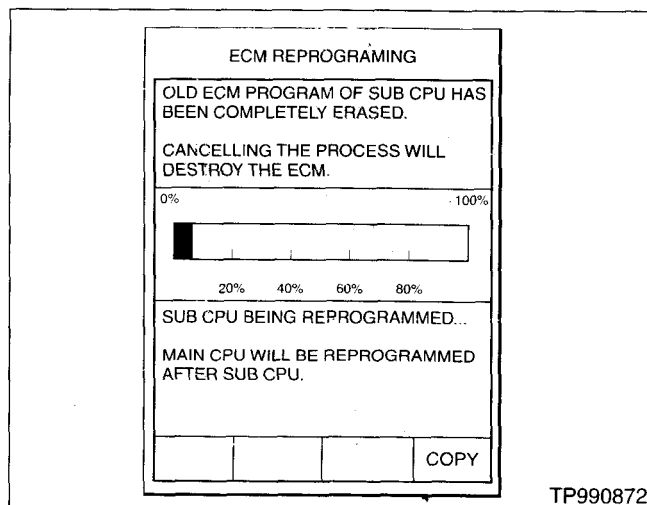

Figure 24
36. Press "START". After a moment the window shown in Figure 24 will appear. CONSULT-II will now turn off its screen backlight and reprogram the ECM.